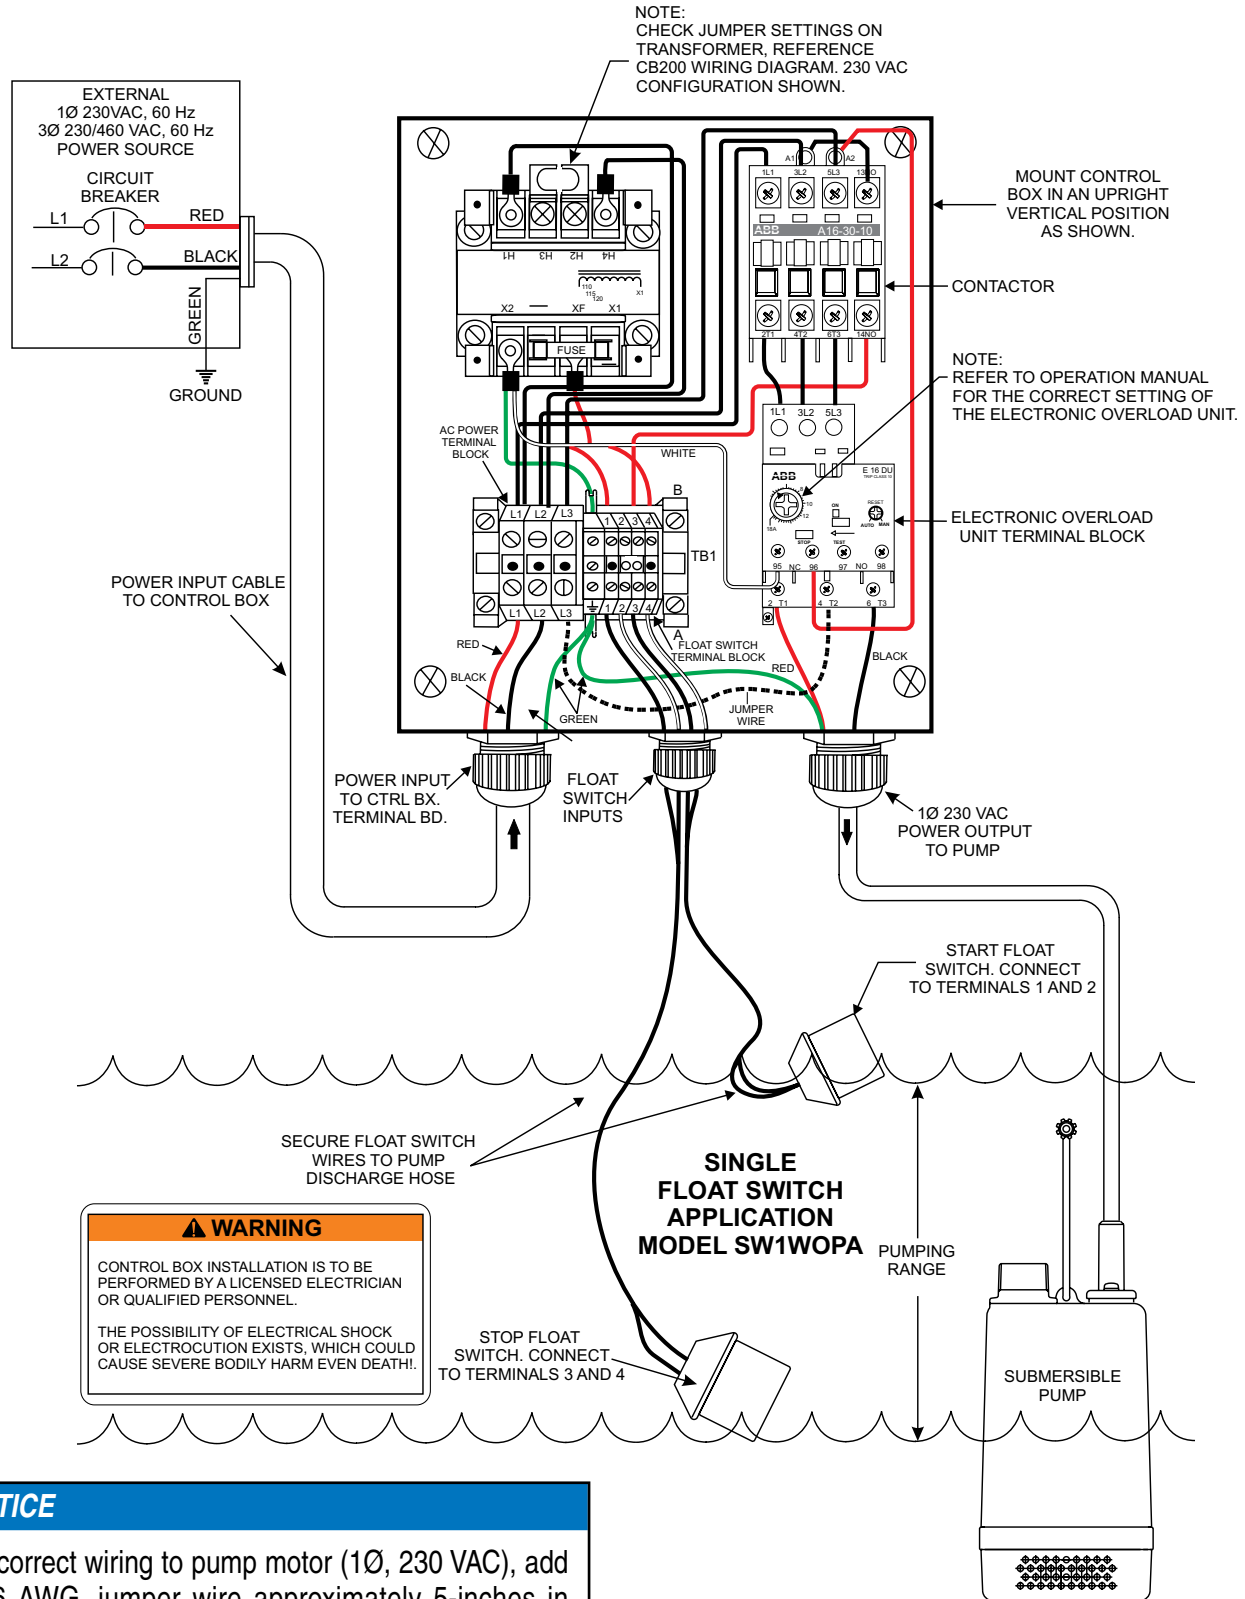

**Figure 10. CB200 Control Box (Old Style)
5. Install **jumper wire** between T2 of electronic overload module and TB1-L3. Reference Figures 10 and 11.